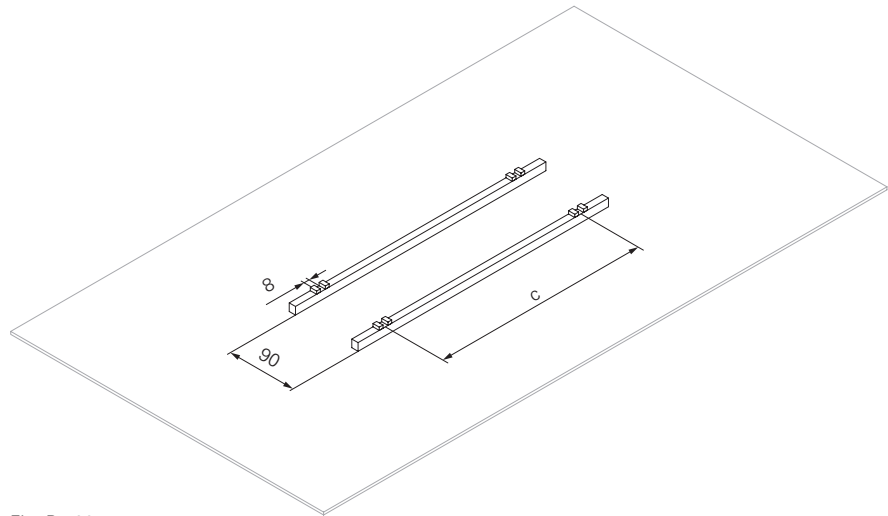

Fig. B5.03
- As assembly aids, prepare two squared timbers with a stop aid. The dimension c corresponds to the bracket spacing. Lay out the squared timbers at the specified distances on the assembly area and align them parallel to each other. (Fig. B5.03)